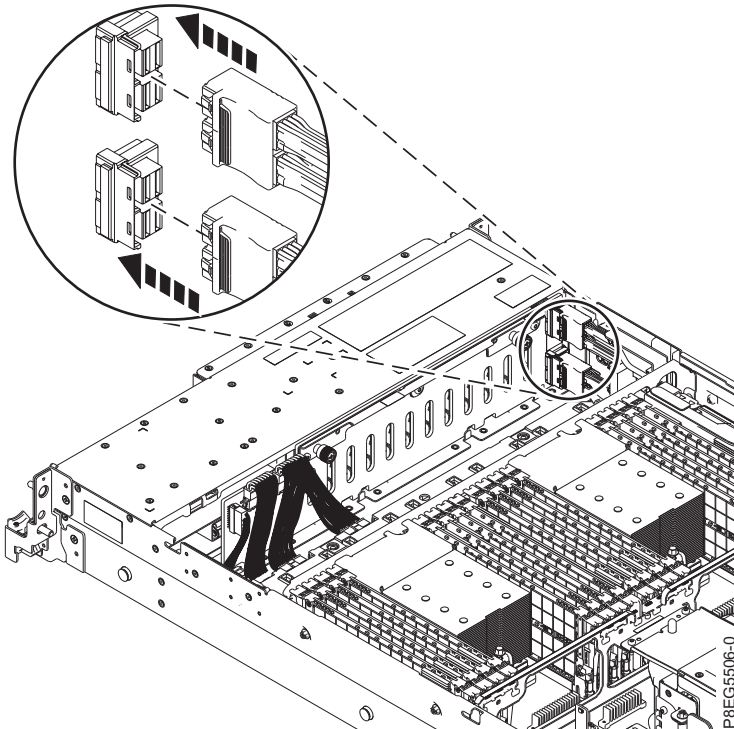

Figure 9. Reconnecting the front SAS cables
7. Reconnect the front SAS cable to the disk drive backplane as shown in Figure 9 on page 10. Push the connector in until the latch clicks.